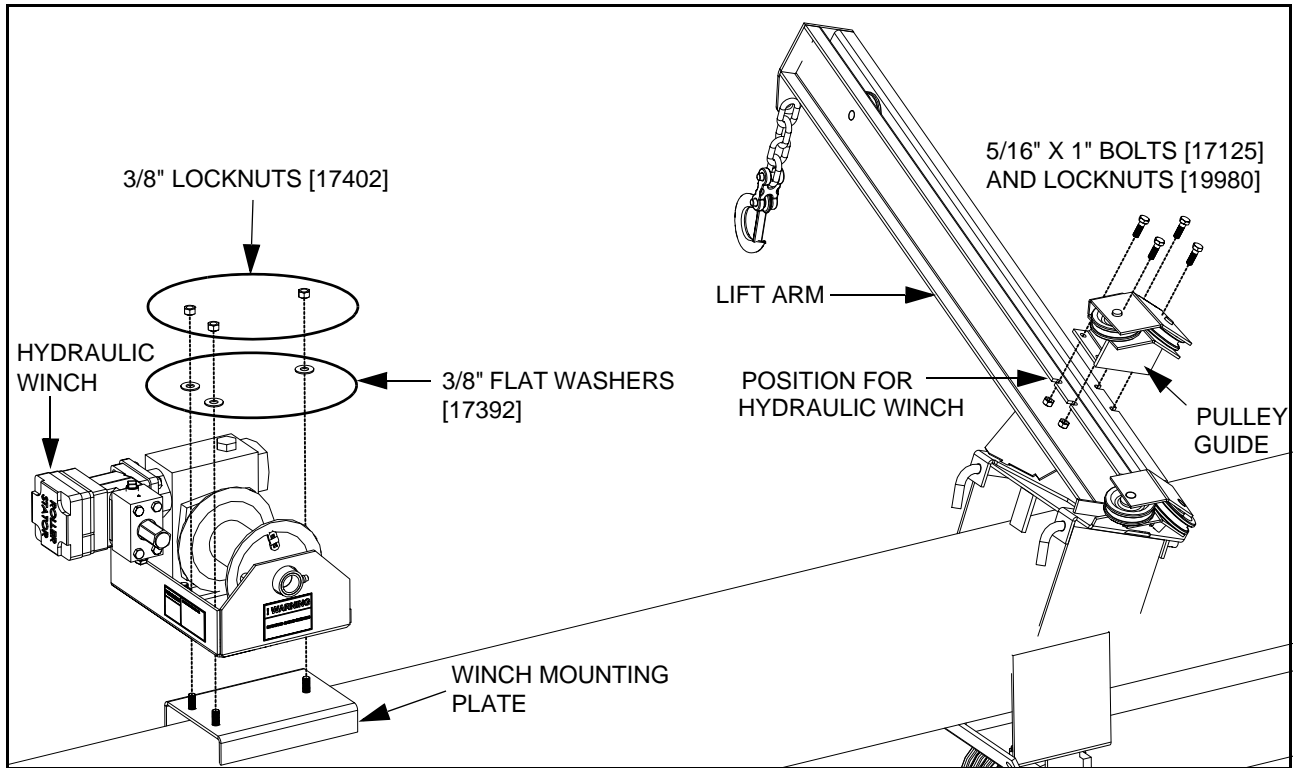
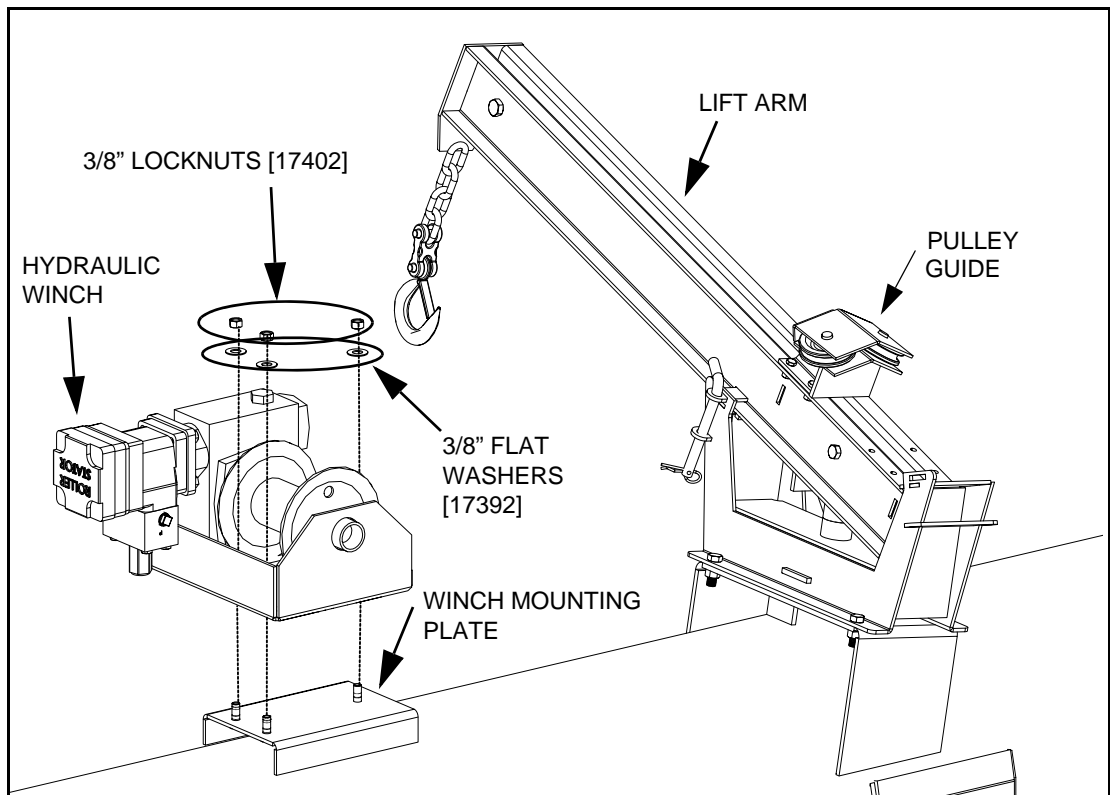

Figure 1 Installing the Hydraulic Winch (MKX100, X100)
Figure 2 Installing the Hydraulic Winch (MKX130, X130, HX130)
3. Install the hydraulic winch (see Figure 1 or Figure 2).
4. For 100 series: Install the pulley guide onto the lift arm (see Figure 1).